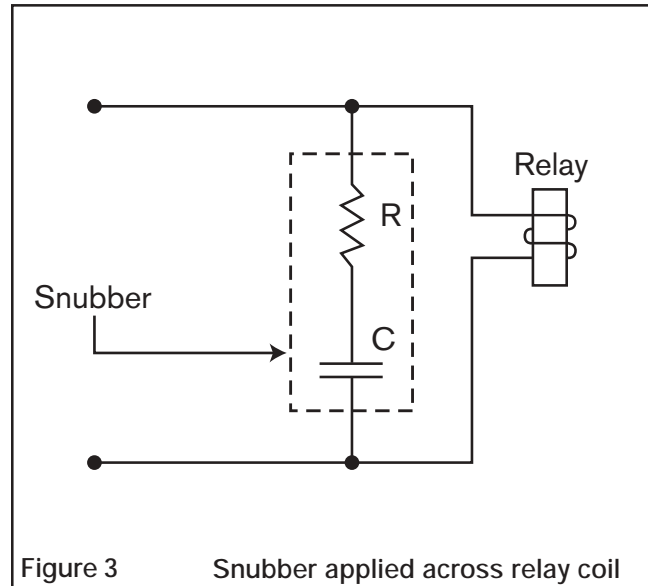

Figure 3 Snubber applied across relay coil
- Place a resistor-capacitor network (snubber) across inductive coils such as relays and solenoids in order to stop electrical interference at the source (See Figure 3).